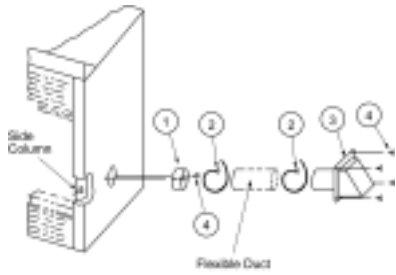

**Figure 27**
3. For removal of the front grate/log assembly remove two screws (one per side) from the hearth pan. Pull the grate/log assembly forward. See Figure 26. Pull forward on the assembly to remove it from the appliance and set it aside, being careful not to damage any of the logs. See Figure 27.